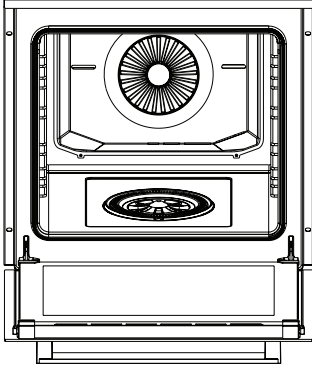
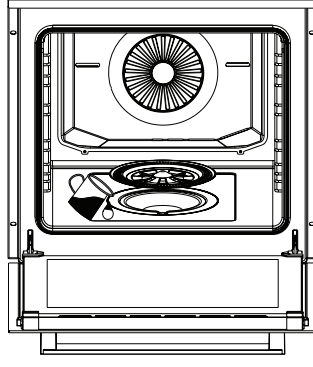
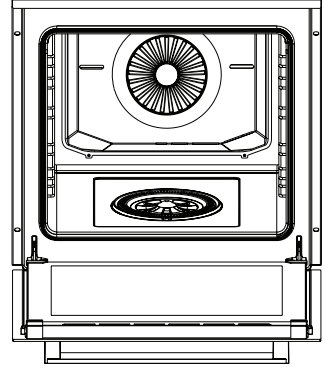

Figure 8
Figure 9
Figure 10
2. Open the cover of the appliance (see figure 8). Remove the water tank cover and fill the tank (see figure 9). Then, close the water tank cover (see figure 10). Close the cover of the appliance and preheat it for 10 minutes. After preheating, you can place the food in the appliance.